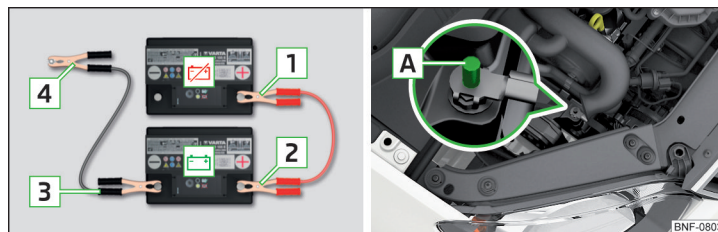

Fig. 157 Jump-starting: 🚗 - discharged battery, 🔋 - power-supplying battery/ground point of the engine for the START-STOP system
- For vehicles **with** the START-STOPsystem, attach clamp **4** to the ground point of the engine **A** » Fig. 157.